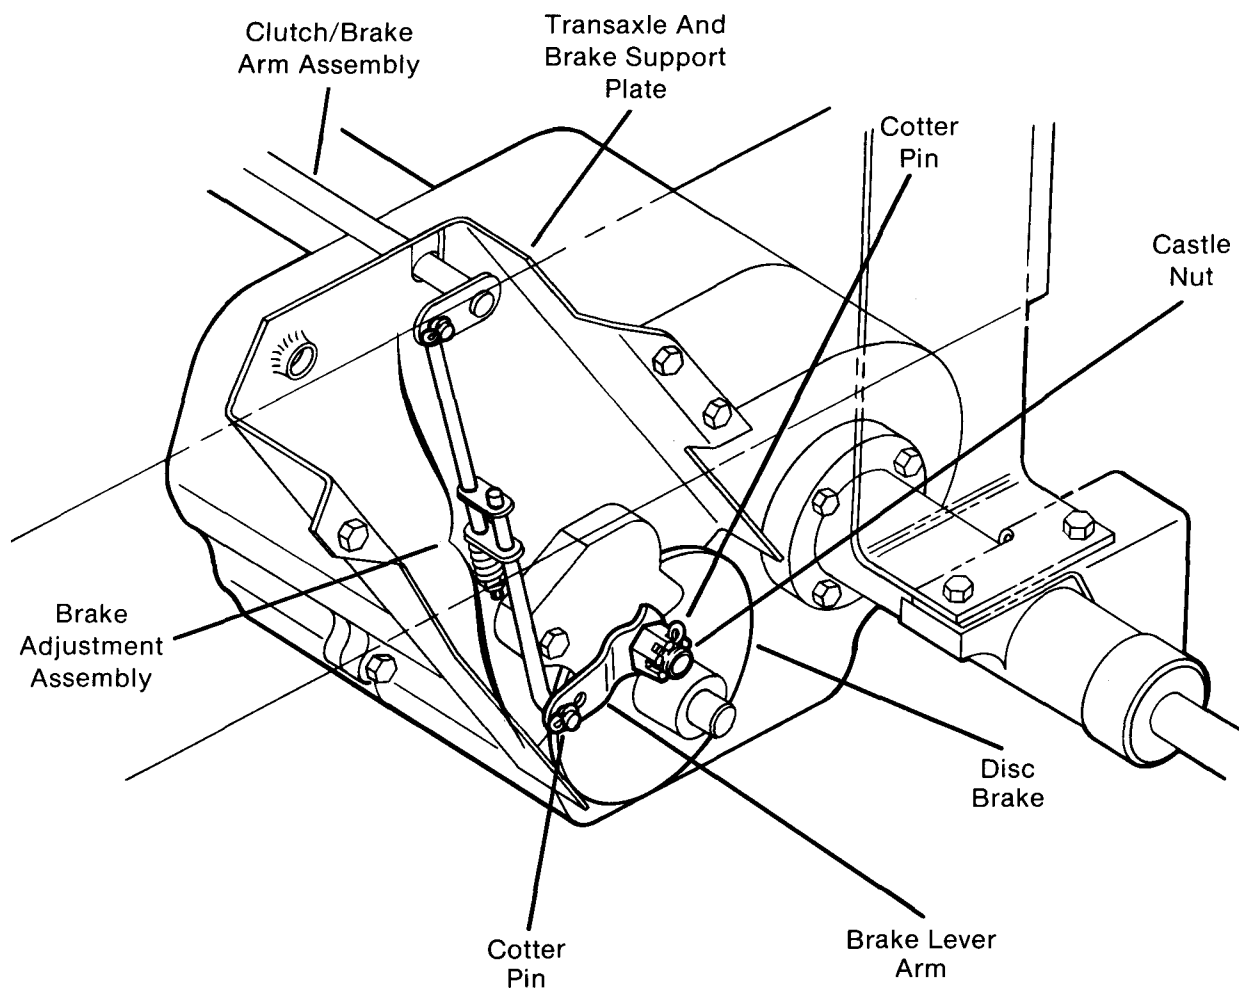

FIG. 59
- G. Remove cotter pin from brake adjustment rod attached to transaxle brake lever arm at disc brake. Detach adjustment rod from brake lever arm. (Fig.59)
- J. Work left end of clutch/brake arm assembly (with brake adjustment assembly still attached) out from behind transaxle and brake support plate. (Fig. 59)
- E. Remove cotter pin from brake adjustment rod at disc brake lever arm. Remove adjustment rod from brake lever arm. (Fig. 59)
- C. Depress clutch/brake pedal and release parking brake. Remove cotter pin thru castle nut. (Fig. 59)